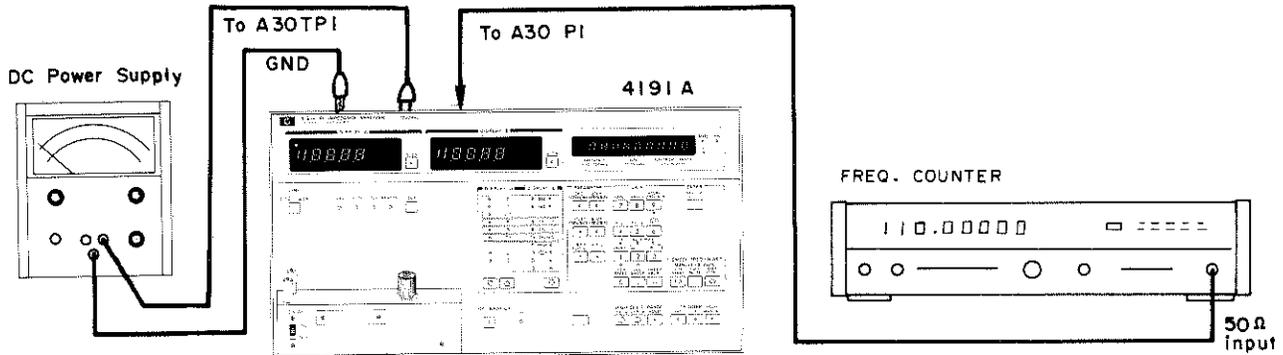

Figure 5-11. Opt. 002 Test Frequency Synthesizer VTO Adjustment Setup.
2. Connect the dual banana to dual alligator clip cable between A30TP1 and the dc power supply output as shown in Figure 5-11.